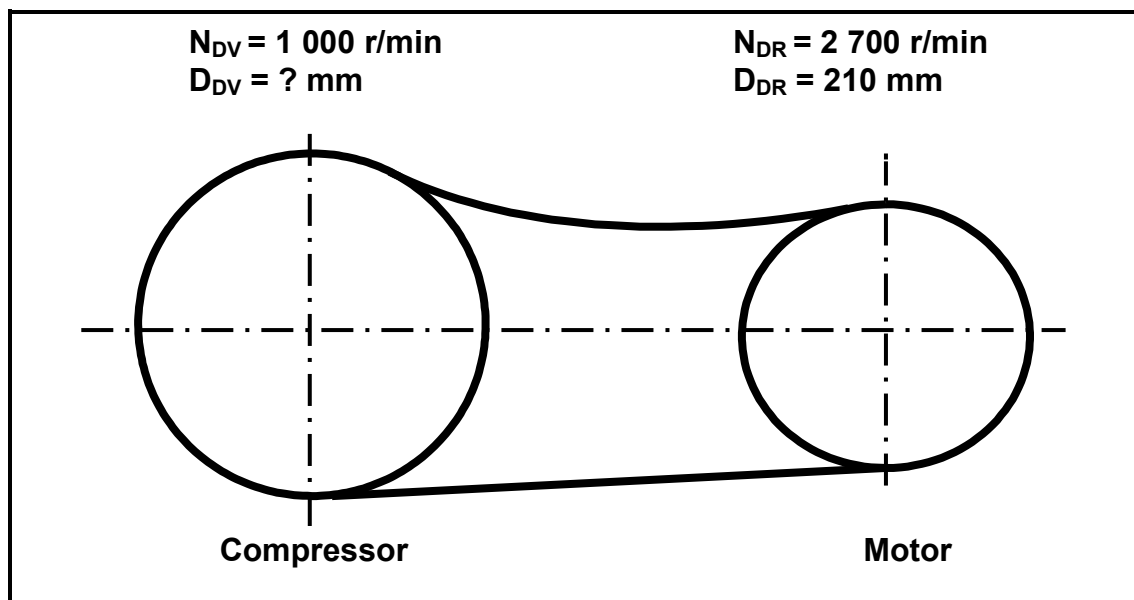

FIGURE 6.2
- 6.3 The V-belt drive system of a compressor is shown in FIGURE 6.2 below. The driver pulley of the belt drive system rotates at 2 700 r/min. The driver pulley has a diameter of 210 mm. The compressor shaft must rotate at 1 000 r/min.